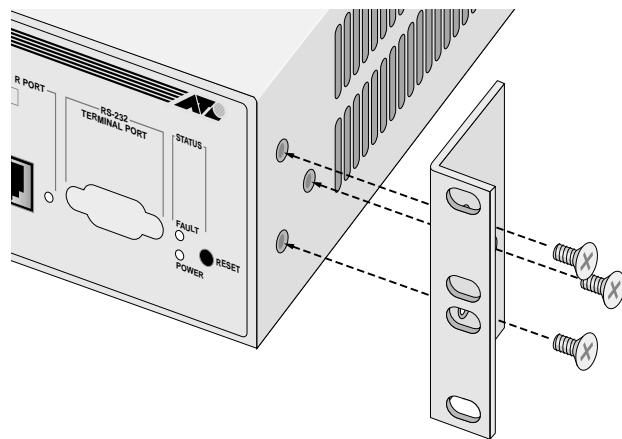

Figure 14 Attaching Rackmounting Brackets
5. Attach the rackmounting brackets to each side of the switch, using the six flathead screws that came in the switch package as shown in Figure 14.